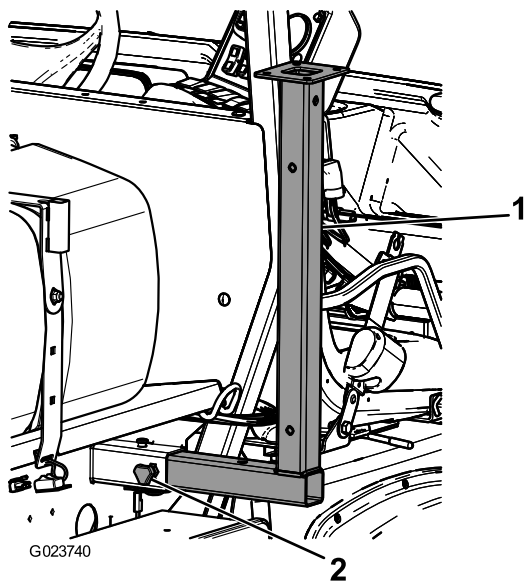

Figure 50
1. Insert the front jack stands upside down into the frame near the front tie-down points (Figure 50).